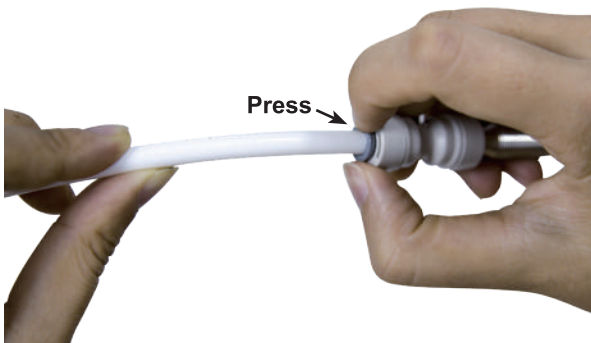

Figure 3
- Use your thumb and index finger to press down the lock sleeve. Use your other hand to pull out the tubing from the fitting (Figure 3).